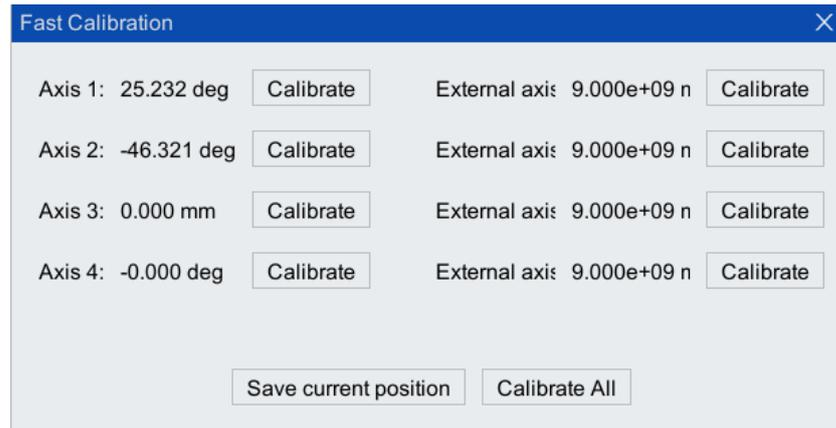
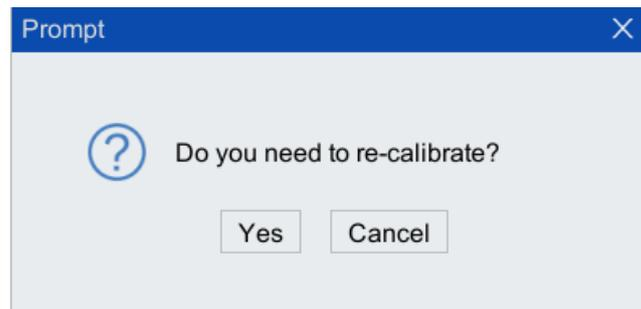

Figure 5-68 "Quick Calibration" Interface
Figure 5-69 "Are you sure to recalibrate?" dialog box
Step2. On the main interface of the teach pendant, click "Run > Calibration > Quick Calibration" option to enter the "Quick Calibration" interface shown in Figure 5-68. Click <Save Current Position> button, and then the system will record the robot's current axis position.
Step4. Re-enter "Fast Calibration" interface in Figure 5-68, and click <Calibration> button behind any axis or <All Calibrations> button below, and "Do you need to re-calibrate?" dialog box will pop up, as shown in Figure 5-69. Click <Yes> button, and "Message Bar" of the system will display "One axis or all axes are calibrated successfully", and the corresponding axis will be completed to the previously recorded position.